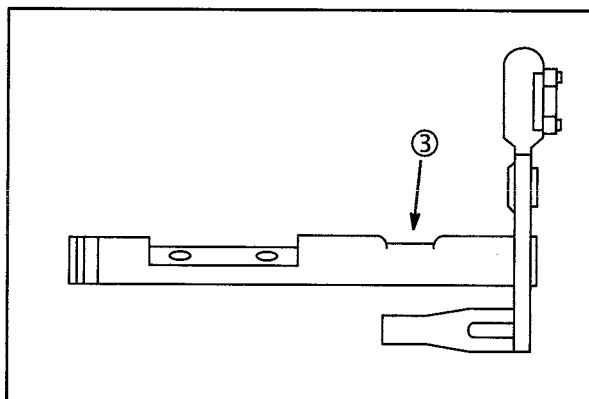

Fig. 97
2. Inspect throttle shaft and choke shaft for wear (3), Fig. 97. Replace if worn.